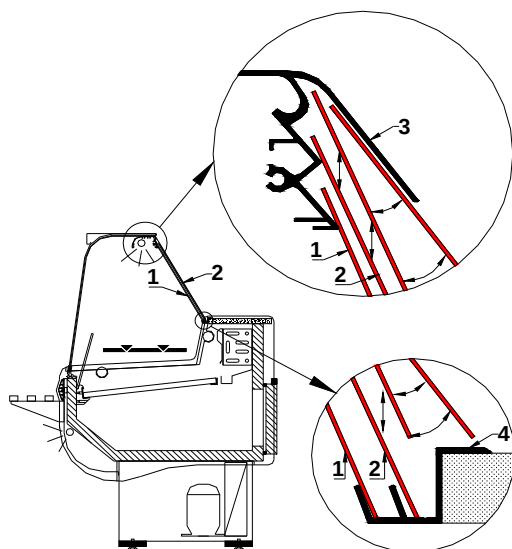

Fig.5 Assembly/disassembly of night screens
7. Mount night screens Fig.5/ 1;2 \(p.9\)